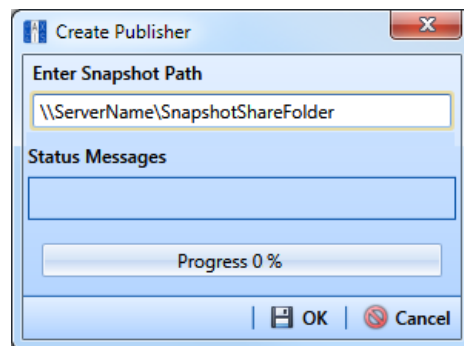

Figure 15-2. Create Publisher
- 1 Click **Tools > Synchronization > Create Publication** to open the *Create Publisher* dialog box (Figure 15-2).